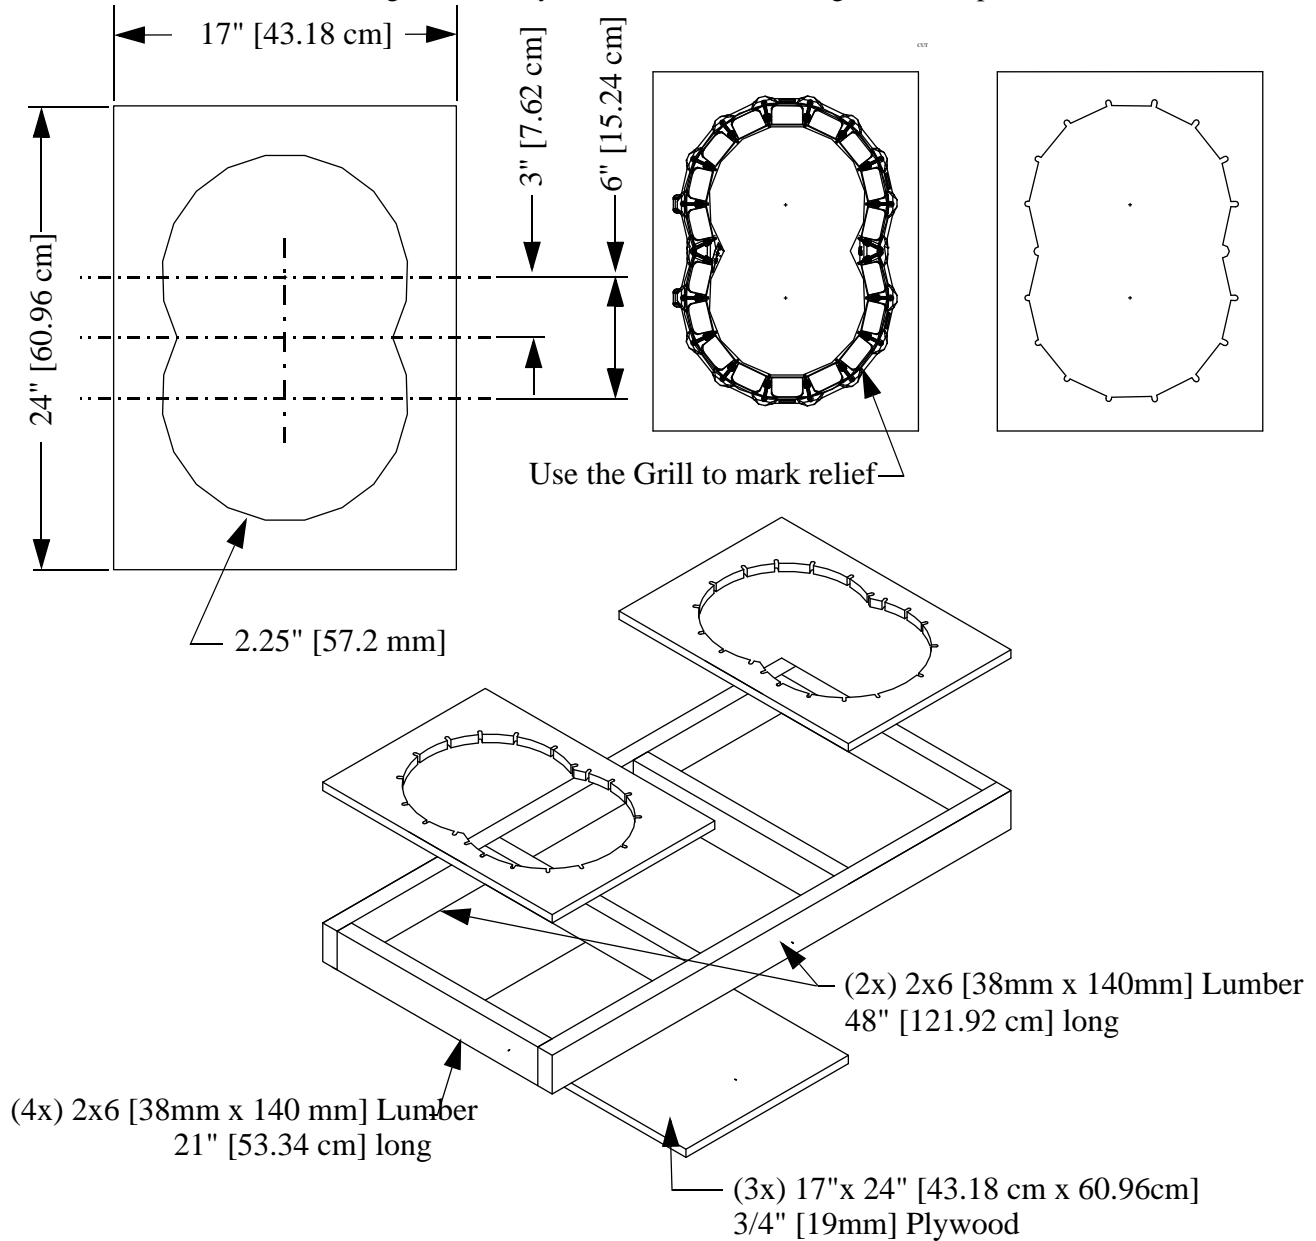

Figure 34. Feed Pan Assembly Box Construction
2. Center the grill on the 17" [432 mm] x 24" [609 mm] piece of plywood. Use a pencil and draw around the inside edge of the grill as shown in **Figure 34**. Mark a "V" at each strut location.
4. Use a spade bit to drill a hole at each strut location as shown in **Figure 34**.
6. Use FOUR (4) 21" [53.34 cm] and two (2) 48" [121.92 cm] 2 x 6 [51 mm x 236 mm] pieces of lumber to construct the box sides. Nail the 3/4" [19 mm] plywood fixture to the box.